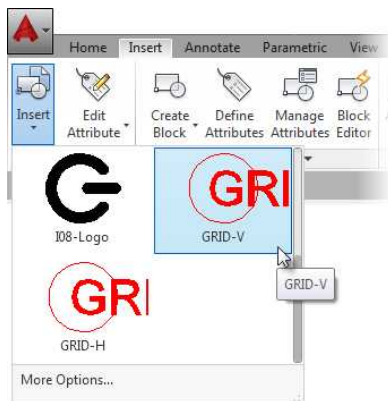

FIGURE 9.8: Selecting GRID-V from the Block Insertion gallery
4. Click the Insert button in the Block panel and select the GRID-V block from the Block Insertion gallery (see Figure 9.8).